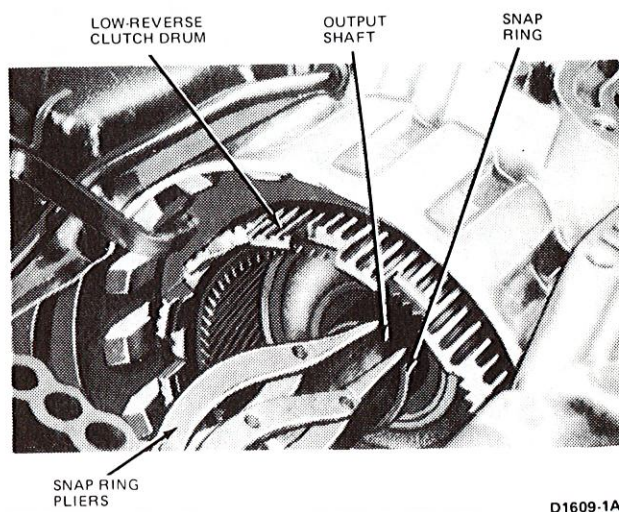

FIG. 17 Removing or Installing Reverse Ring Gear Hub, Snap Ring
15. Remove the snap ring, (Fig. 17), that secures the reverse ring gear and hub on the output shaft. Slide the ring gear and hub off the shaft. Remove the thrust washer.